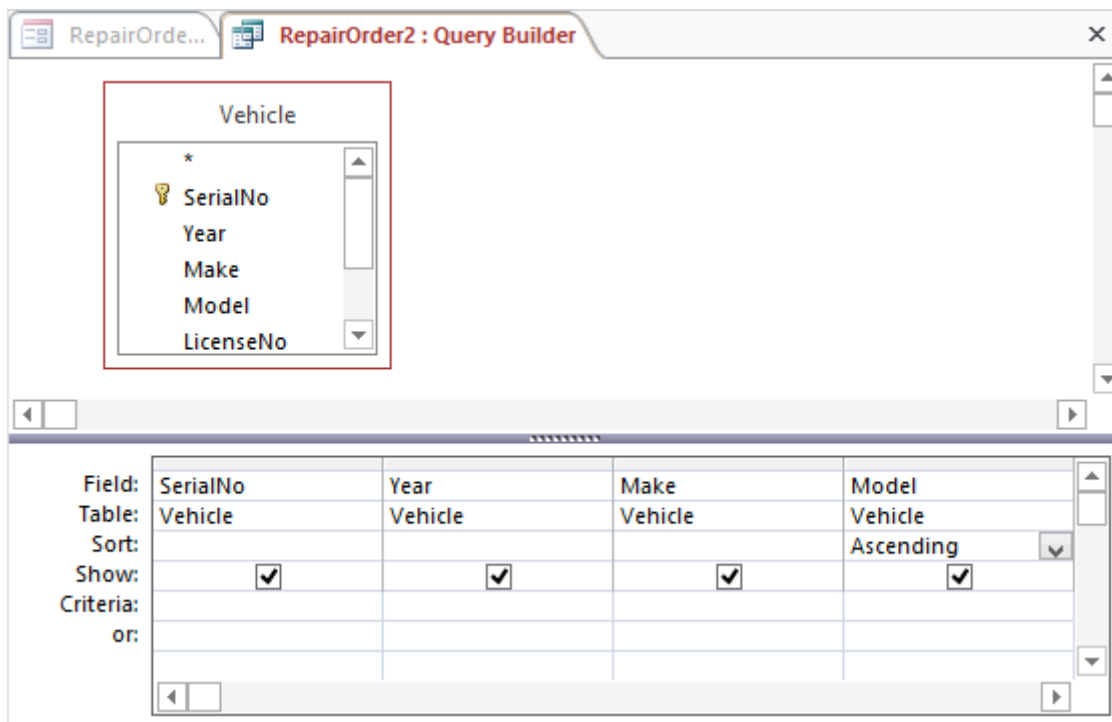

Figure 18: Query Design for the *Serial No.* Combo Box
1. Drag the *Year*, *Make*, and *Model* fields down into the query grid. In the *Make* column, click in the *Sort* row and choose “Ascending” (Figure 18).